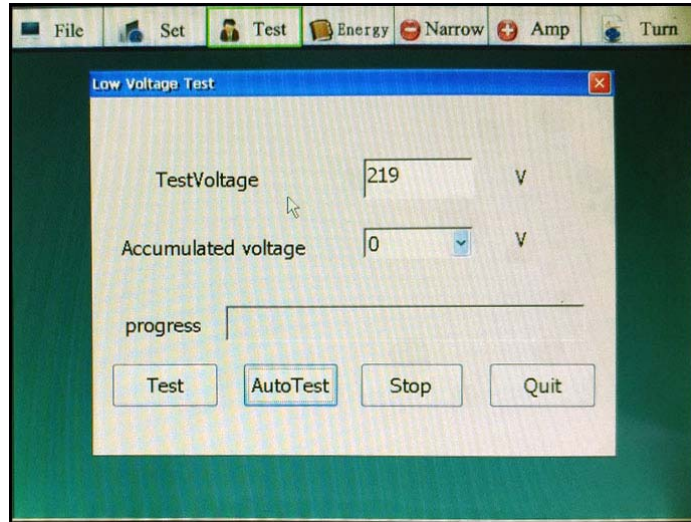

Figure 28
2. Auto Contact Low Jump as below figure 28: